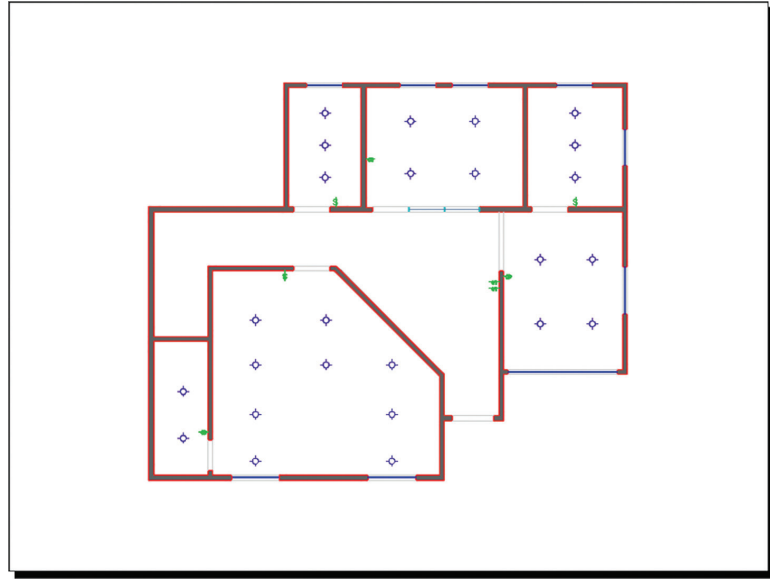

FIGURE 14.22 Previewing Layout2
12. Double-click outside the viewport on the drawing canvas to return to paper space. Open the Application menu, choose the Print category, and then click Plot. Click the Preview button to open a preview window (see Figure 14.22).